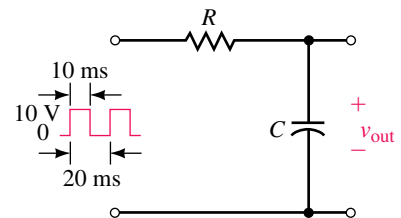

FIGURE 11-67
- A step is applied to the circuit of Figure 11-67. If $R = 150 \text{ }\Omega$ and $C = 20 \text{ pF}$, estimate the rise time of the output voltage.
- A pulse train is input to the circuit of Figure 11-67. Assuming that the capacitor is initially uncharged, sketch the output for each set of values below after the circuit has reached steady state: